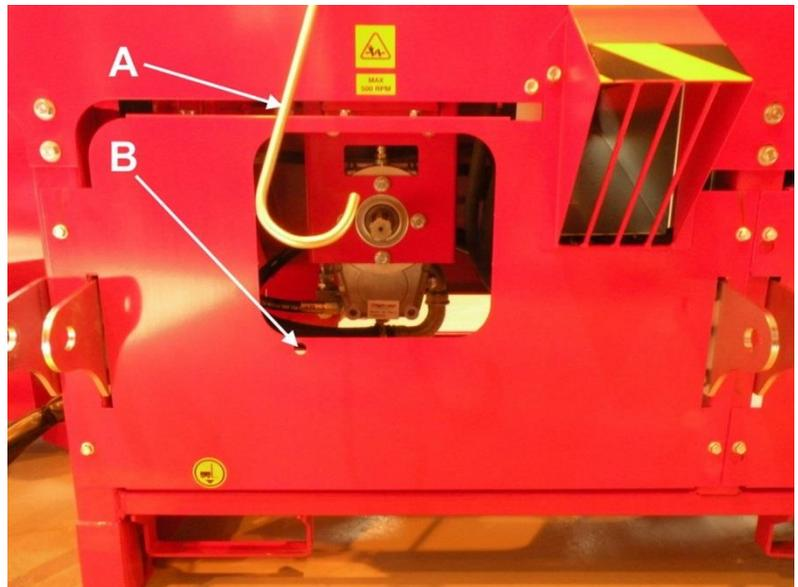

Figure 5
5. Lift the conveyor with the winch until it locks into the raised position. Ensure that lock A (Figure 5) settles properly into place.
When using the cardan shaft, observe any instructions provided by the manufacturer of the shaft. The machine requires 7.5 kW of power, which must be taken into account with regard to the capacity of the cardan shaft. A suitable cardan shaft is of power class four. Make sure that the connected shaft is locked to the splined shaft of the multiplier gear. Connect the chain that prevents the turning motion of the protective cover to slot B (Figure 5). Hang the cardan shaft from hook A (Figure 5) when the machine is not being operated and it is disconnected from the tractor. Finally, ensure that all connections are safe and secure. Never use a damaged or unprotected cardan shaft.